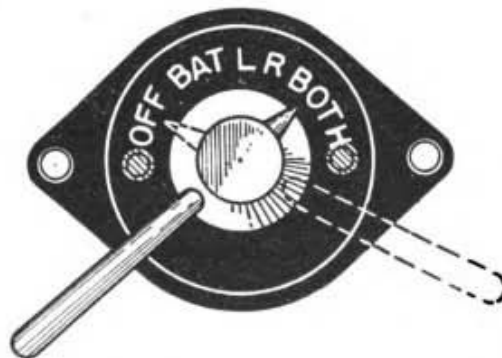

Figure 37. Checking the OFF position of ignition switch.
d. Taxying. (1) High-powered, tightly baffled engines are taxied during warm weather with the cowling flaps placed in the FULL OPEN position. When the engine and oil temperatures approach the maximum limits the airplane is taxied as quickly as possible to the hangar line and the engine stopped immediately. In cases where an airplane must take off again soon after a landing, prolonged ground operation must be avoided. The oil shutters, coolant shutters, and the cowling flaps must be opened, the mixture control must be in the FULL RICH position, and the inter-cooler shutters FULL OPEN in order to maintain normal ground temperatures.
(2) During cold weather, when the engine and oil temperatures are sub-normal, prolonged ground operation is permitted, provided normal engine temperatures are maintained and engine speed is periodically increased to clear the cylinders of accumulated exhaust gases and oil.
a. Ignition. (1) At the end of the engine warm-up period, the ignition switch should be checked. The propeller should be in LOW PITCH (INCREASE RPM) position and the engine should be operating at approximately 700 rpm. The switch should be snapped to the OFF position momentarily to note whether or not the engine stops firing. Two or three seconds is sufficient time for it to remain in the OFF position and it should immediately be returned to the BOTH position. (See fig. 37.) Performing this check quickly at a low engine speed prevents high structural stresses on the parts of the power plant.